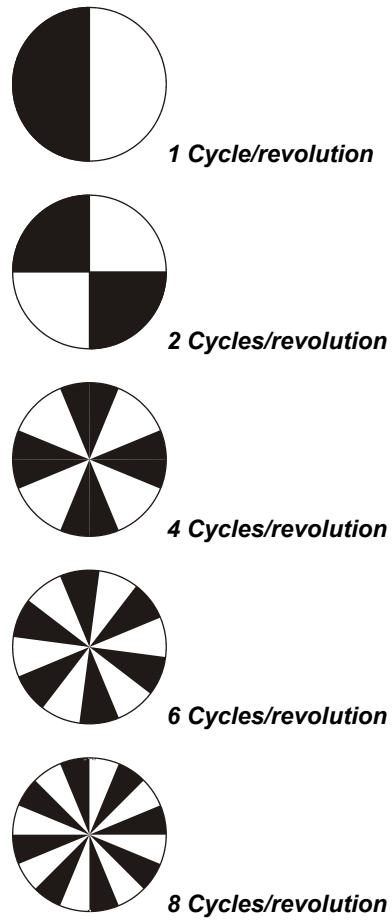

Figure 4-17
- ✓ Using double-sided tape, rubber cement, or some other non-permanent method, attach the 1 cycle/revolution retro-reflective encoder wheel from Figure 4-17 to the fan. Do not place tape on the surface as it may reflect, affecting your readings.